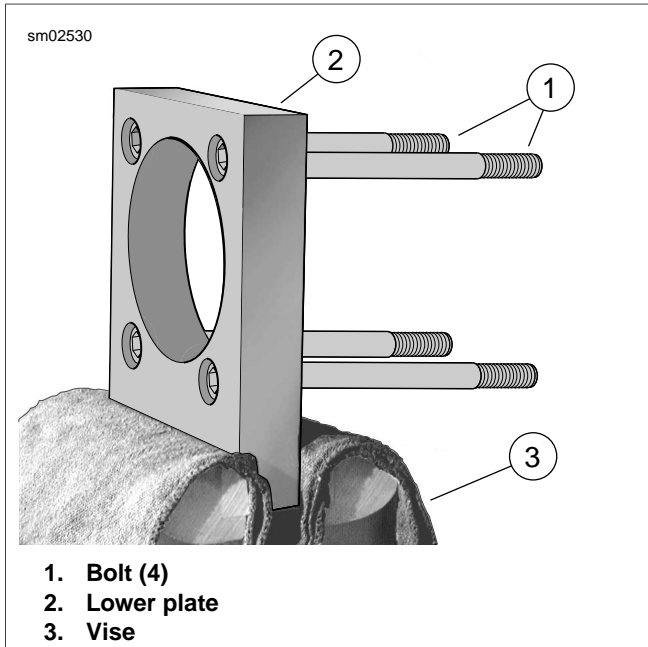
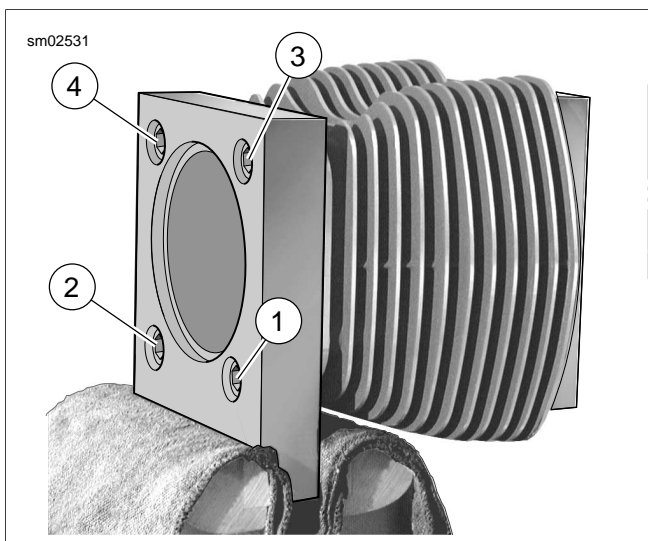

Figure 3-97. Attaching Cylinder Torque Plates
Figure 3-98. Cylinder Torque Plate Bolt Sequence
1. See Figure 3-97. To simulate an assembled cylinder for accurately measuring cylinder taper and out-of-round conditions, as well as for boring, honing or deglazing, obtain the CYLINDER TORQUE PLATES (Part No. HD-42324-A). Install the torque plates as follows:
- c. See Figure 3-97. Install brass jaws or shop towels around teeth of vise to prevent damage to tool. Clamp stepped side of lower plate in vise with the simulated split line (machined strip) facing away.
- d. Lightly oil threads and shoulders of four bolts (1) with clean H-D 20W50 engine oil. Slide four bolts all the way through holes of lower plate (2).
- g. See Figure 3-98. Tighten the bolts to 120-144 in-lbs (13.6-16.3 Nm) in the sequence shown.
- j. Using the marks as a guide, turn each bolt 1/4 turn or 90°. Be sure to tighten the bolts in the sequence shown in Figure 3-98.